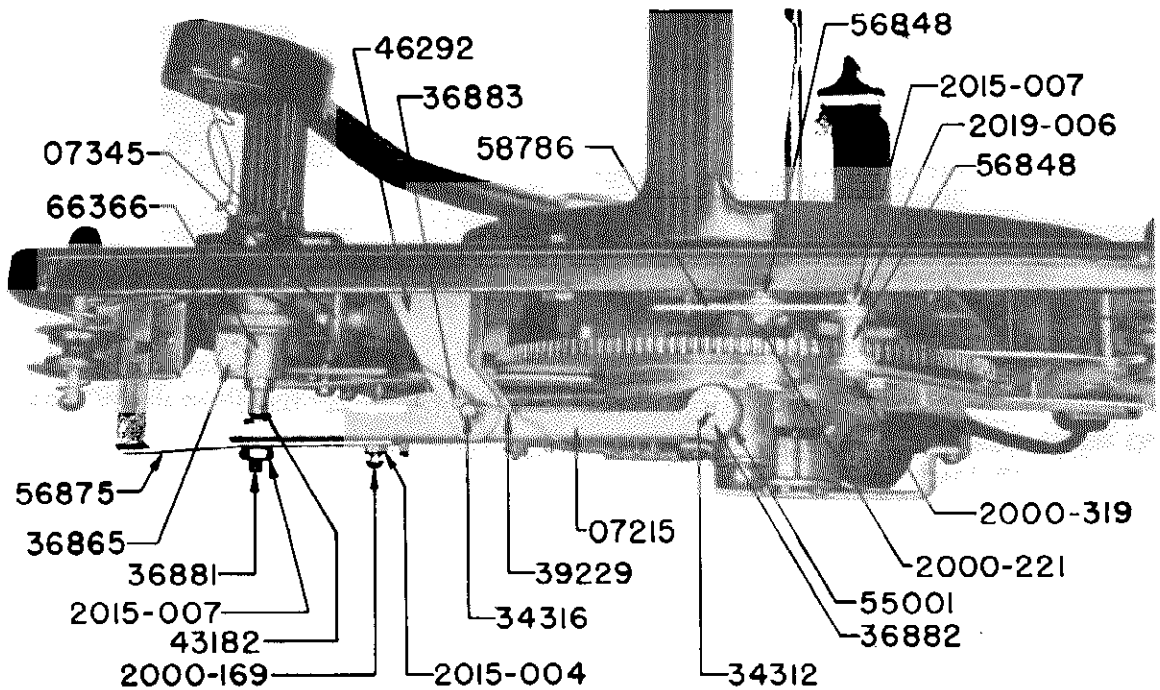

FIGURE 9 — TONE ARM LIFT LEVER ASSEMBLY
If a record fails to drop due to the record plunger not coming out far enough, remove the plunger shaft assembly (No. 15076 or 15077) and check to see if it is bent. If neither of these are bent and both front and rear plungers do not have sufficient travel loosen screw 2012-209 (Fig. 7 Page 12) and move screw out toward rim of main cam. Make sure that the plunger shafts are not reversed as they are not interchangeable. If the front plunger, only, lacks sufficient travel loosen screw 2000-221 (Fig. 9 Page 14) to a sliding tension and lightly bump stud 56348 out slightly toward edge of changer baseplate. Retighten screw to maintain adjustment. If the rear plunger, only, lacks sufficient travel loosen the corresponding mounting screw on the rear of the changer and bump the stud lightly toward the edge of the changer baseplate. Retighten screw to maintain adjustment.
8. TONE ARM HEIGHT ADJUSTMENT (See Fig. 9)